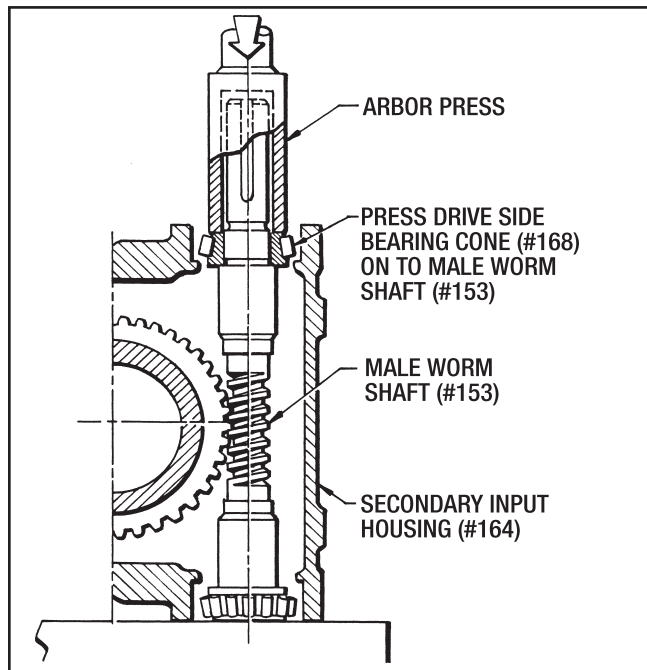

Figure 9.3 - Installing Drive Side Bearing Cone (#168) onto Male Worm Shaft
2. Press (1) Bearing Cone (#168) onto the opposite end of the drive end of the Worm Shaft (#153).
4. Place Housing and Worm Shaft into an Arbor Press and press the drive side Bearing Cone (#168) onto the Worm Shaft. (See Figure 9.3).